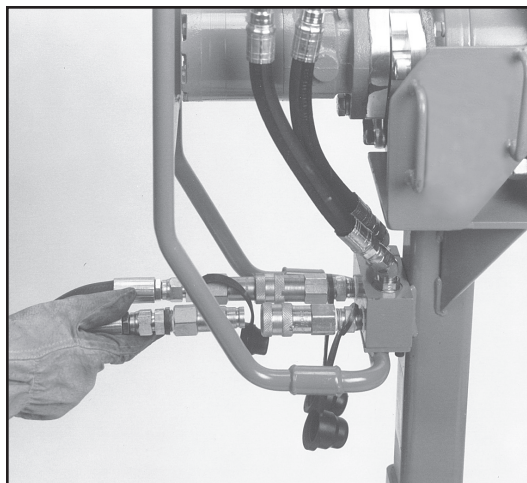

Figure 2. Foot Control Connections
2. Connect the hoses from the foot control valve assembly to the puller (figure 2). The supply hose assembly has four identical male couplings and can be attached between the puller and foot control valve assembly in any orientation.